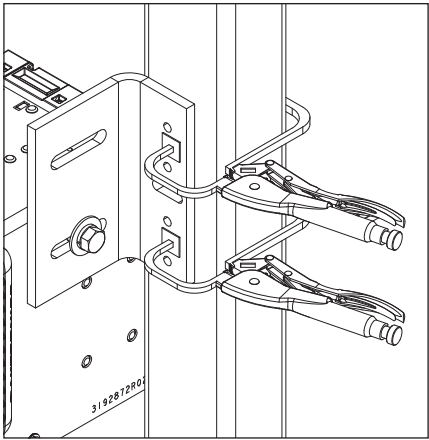

Figure 7: Secure Section with Clamps
- Use clamps to hold the angle tight to the vertical tube. This provides a tight fit but allows for adjustment as needed. Refer to Figure 7.